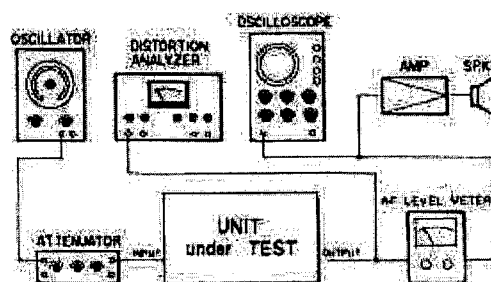

Fig. 9-5-15. Distortion Measurement Set-Up
1. Connect test equipment as shown in Fig. 9-5-15.